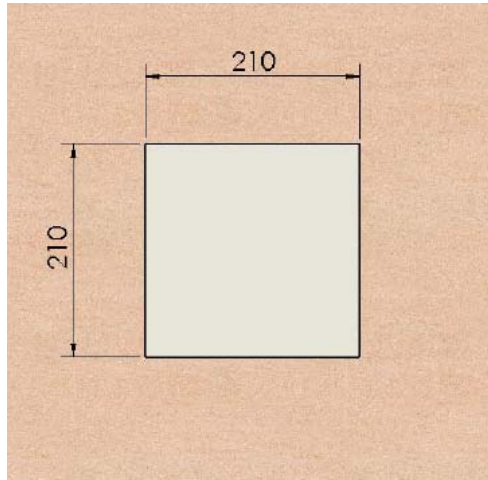

Figure 19
Step 1 Use the tools to drill the square holes one the ceiling, as shown in figure 19,
2. Configure parameters for the adding device, as shown in Figure 19.